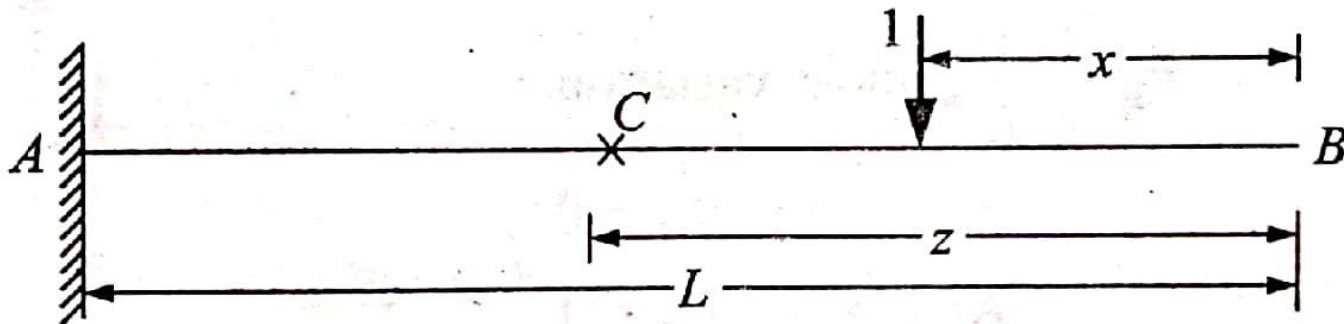

Figure 9: Cantilever with unit load
- Consider a cantilever beam of span  $L$  as shown in Figure 9.